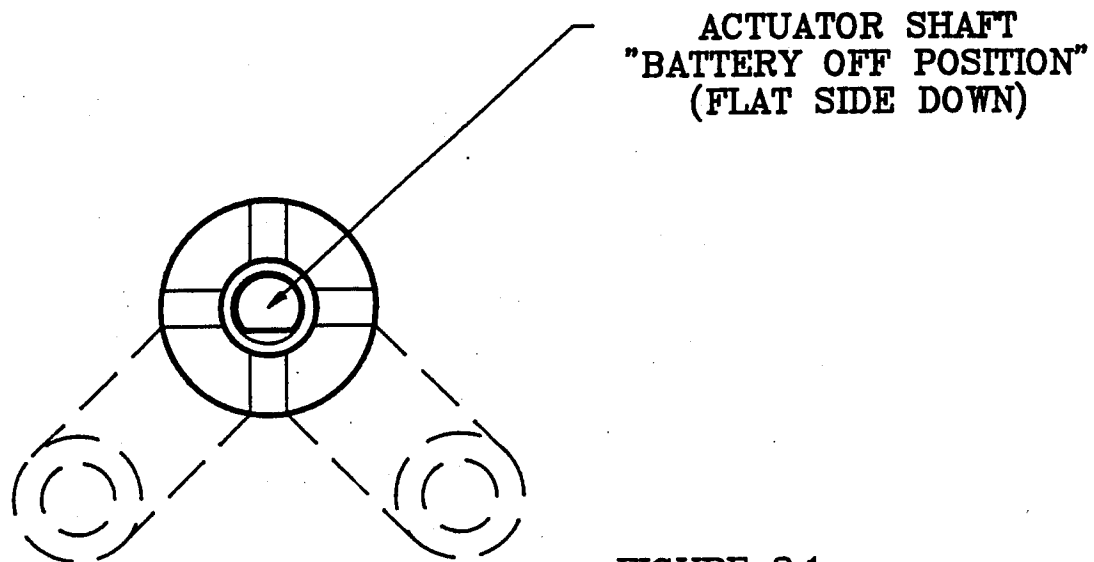

FIGURE 2.1
**FIGURE 2.1** should be removed.
- (1) The MICON 200 computer is shipped with the pump handle actuator shaft in the battery-off position. The position of this shaft is denoted by the flat surface on the end of the shaft facing down. Rotate the coupler assembly 90 degrees so that it snaps over against the opposite stop pin. (Refer to Figure 2.1).
- (2) Observe that the displays sequence through the digits 1 through 9, the option configuration display and the software version number, then show slowly flashing zeros on the dollars and volume displays only.